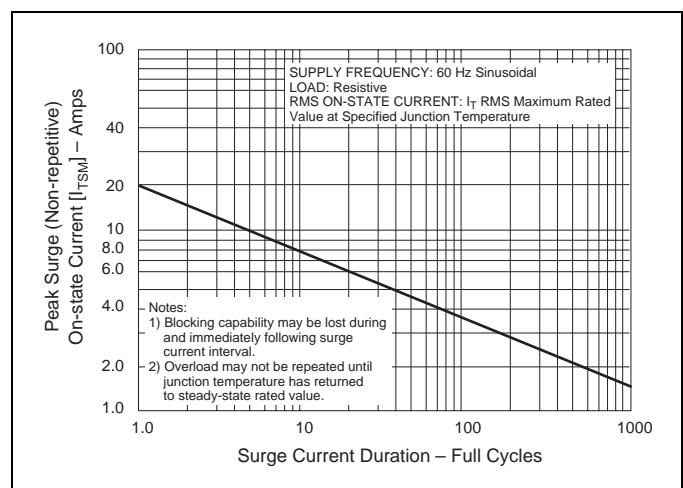

Figure E9.1 Peak Surge Current versus Surge Current Duration
(5) See Figure E9.1 for more than one full cycle rating.